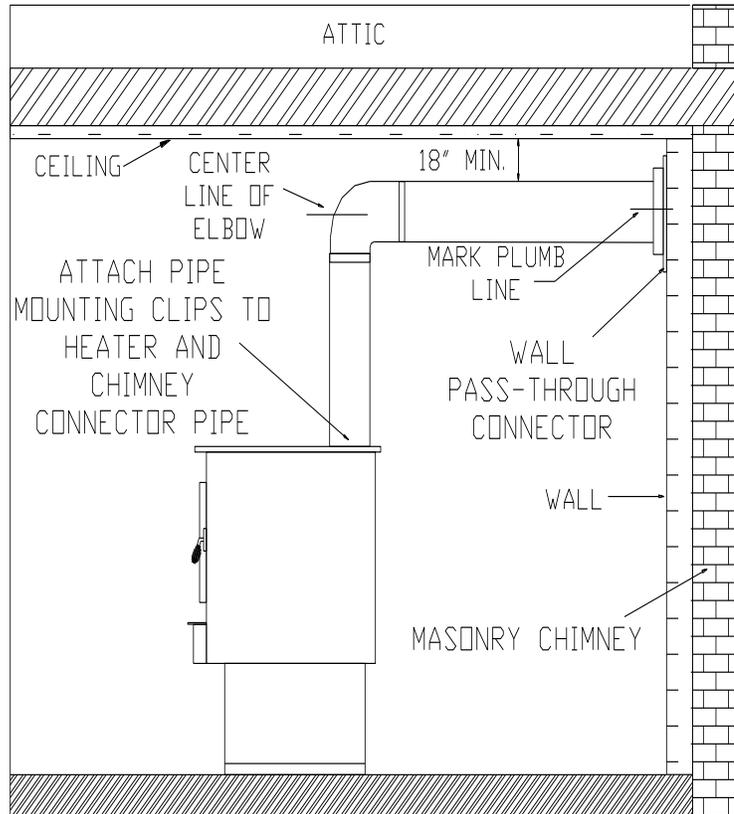

FIGURE 10
- Measure so there will be at least 1/4" rise per foot of horizontal connector pipe, maintaining clearances to ceiling as noted in Figure 10. This will give you center of the hole for chimney penetration.